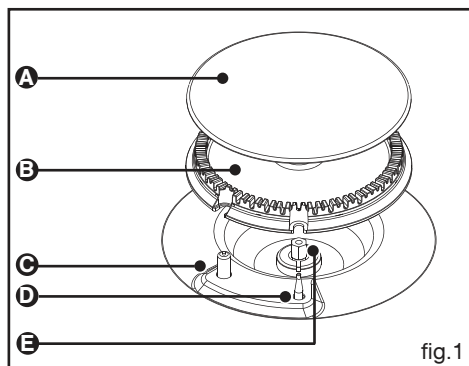

fig.1
- Remove the deflector by unscrewing the 2 screws holding it (**fig.1**)
- Remove the back cover by unscrewing the 11 retaining screws (**fig.1**)